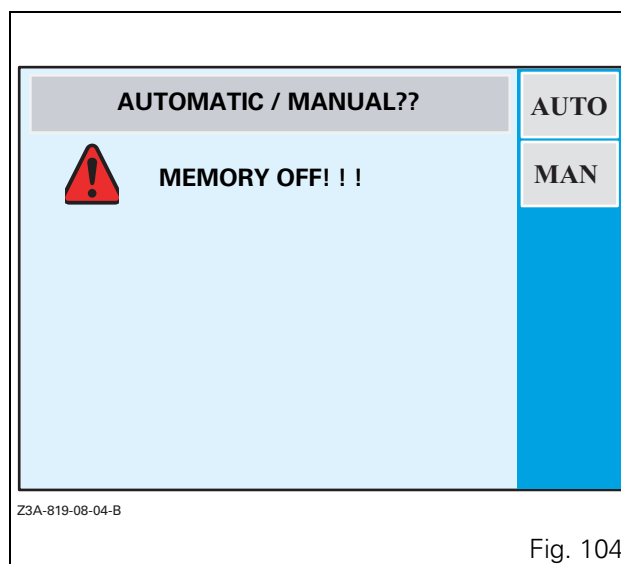

Fig. 104
- Press the key «₁ (AUTO) when the window (Fig. 104) is open. A new display appears (Fig. 105).